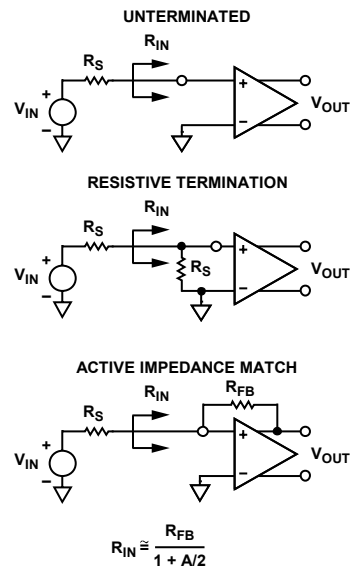
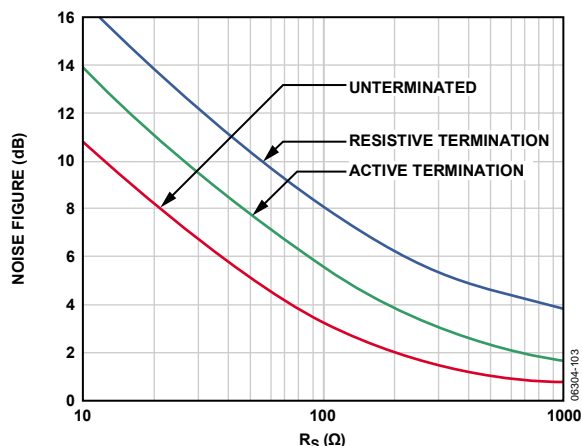
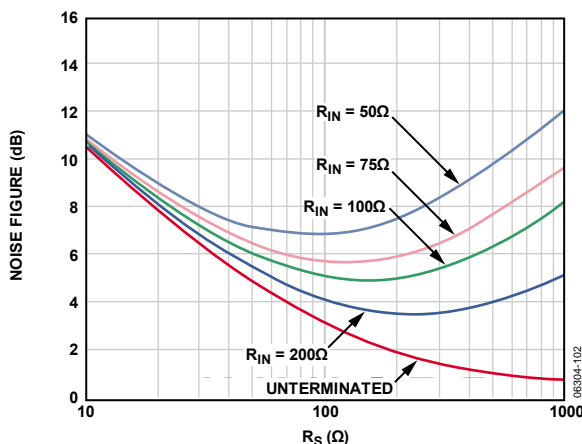

Figure 43. Input Configurations
Figure 44. Noise Figure vs.  $R_S$  for Resistive Termination, Active Termination Matched, and Unterminated Inputs,  $V_{Gain} = 1\text{ V}$ , 15.6 dB LNA Gain
Figure 45. Noise Figure vs.  $R_S$  for Various Fixed Values of  $R_{IN}$ , Active Termination Matched Inputs,  $V_{Gain} = 1\text{ V}$ , 15.6 dB LNA Gain
The short-circuit noise voltage (input-referred noise) is an important limit on system performance. The short-circuit noise voltage for the LNA is  $1.2\text{ nV}/\sqrt{\text{Hz}}$  or  $1.4\text{ nV}/\sqrt{\text{Hz}}$  (at 15.6 dB LNA gain), including the VGA noise. These measurements, which were taken without a feedback resistor, provide the basis for calculating the input noise and noise figure (NF) performance of the configurations shown in Figure 43. Figure 44 and Figure 45 are simulations of noise figure vs.  $R_s$  results using these configurations and an input-referred noise voltage of  $4\text{ nV}/\sqrt{\text{Hz}}$  for the VGA. Underterminated ( $R_{FB} = \infty$ ) operation exhibits the lowest equivalent input noise and noise figure. Figure 45 shows the noise figure vs. source resistance rising at low  $R_s$ —where the LNA voltage noise is large compared with the source noise—and at high  $R_s$  due to the noise contribution from  $R_{FB}$ . The lowest NF is achieved when  $R_s$  matches  $R_{IN}$ .
The primary purpose of input impedance matching is to improve the transient response of the system. With resistive termination, the input noise increases due to the thermal noise of the matching resistor and the increased contribution of the LNA's input voltage noise generator. With active impedance matching, however, the contributions of both are smaller (by a factor of  $1/(1 + \text{LNA Gain})$ ) than they would be for resistive termination. Figure 44 shows the relative noise figure performance. In this graph, the input impedance was swept with  $R_S$  to preserve the match at each point. The noise figures for a source impedance of 50  $\Omega$  are 7.1 dB, 4.1 dB, and 2.5 dB for the resistive termination, active termination, and unterminated configurations, respectively. The noise figures for 200  $\Omega$  are 4.6 dB, 2.0 dB, and 1.0 dB, respectively.
Figure 45 shows the noise figure as it relates to  $R_S$  for various values of  $R_{IN}$ , which is helpful for design purposes.